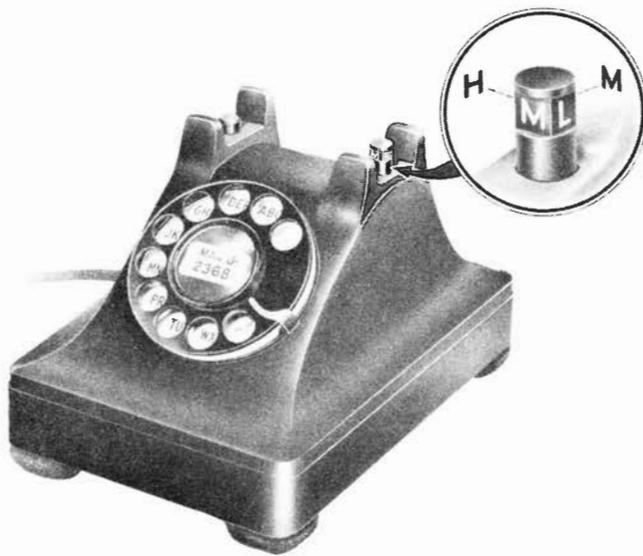

FIG. 4—RIGHT HAND PLUNGER
- The right hand plunger also serves as an on and off and volume control switch (see Fig. 4).